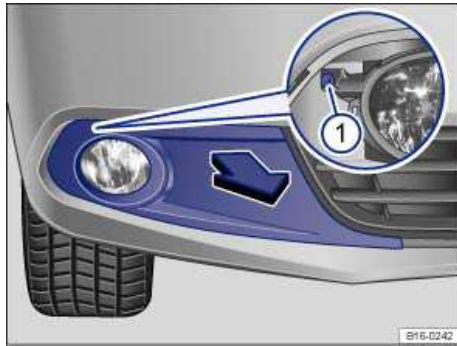
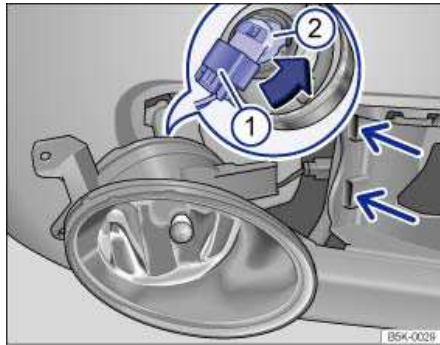

Fig. 173 In front right bumper: Removing the light assembly.
Fig. 174 Replacing a light bulb in the fog light.
2.	Pull the cover forward in the direction of the arrow ⇒ fig. 173.
3.	Unscrew the fastening screw (1) with the screwdriver from the vehicle tool kit
4.	Fold the headlight assembly slightly forward and pull out of the mounts ⇒ fig. 174 (small arrows).
5.	Release the connector plug (1) and pull it off.
6.	Rotate the bulb holder (2) counterclockwise as far as it goes and pull it out with the light bulb to the rear.
9.	Attach the connector (1) to the bulb holder (2). The connector must latch with an audible "click".
11.	Screw the fastening screw ⇒ fig. 173 (1) tightly with the screwdriver.